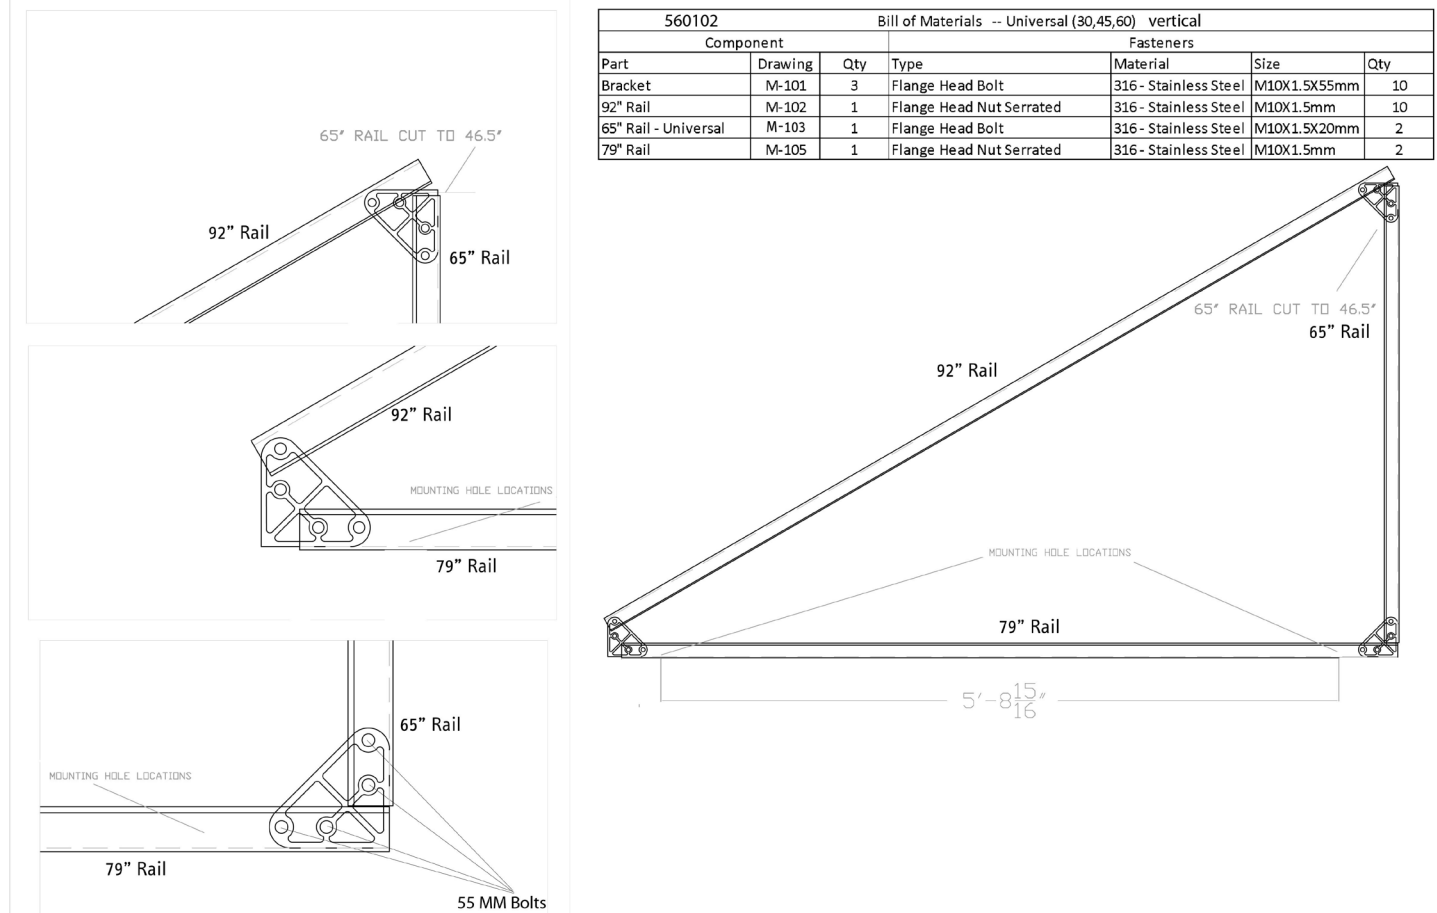

Figure 5.4.1: 30/60/45° Vertical Mounting Kit (Part # 560102) Component Listing and Assembly Example, 30° Mode
2. Assemble 2 triangular trusses using the 65” rails (M-103), the 92” rails (M-102), the 79” rails (M-105), the brackets (M-101), and the 55 mm bolts as shown in Figure 5.4.1. Note that the 65” rails are cut to 46.5”.
2. Assemble 2 triangular trusses using the 65" rails (M-103), the 92" rails (M-102), the 79" rails (M-105), the brackets (M-101), and the 55 mm bolts similar to the manner shown in Figure 5.4.1 with the following change: the 92" rails should be reversed such that the 65" rail connects to the end with the holes closest, and the 79" rail connects to the end with the holes further away. If desired, the 65" rails can be cut to 46.5".